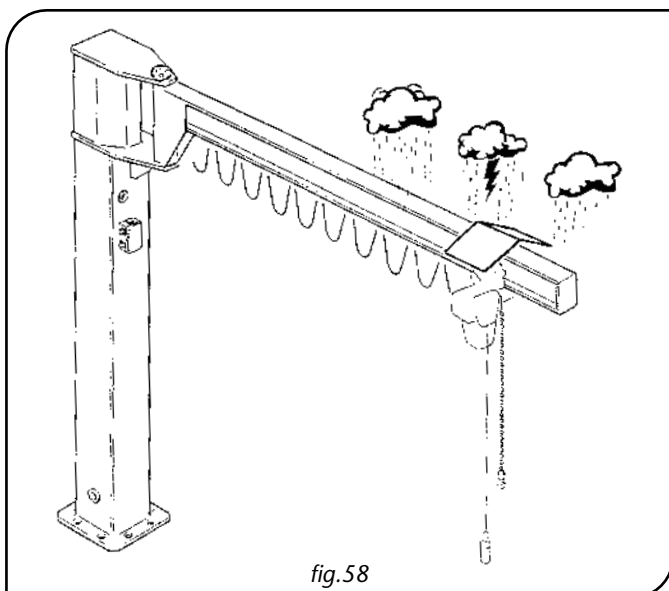

fig.58
- **outdoor use:** the jib crane may be exposed to atmospheric conditions during and after use. The electric parts of the hoist and trolley have IP55 protection, however, protecting the hoist and trolley with a shelter of some kind is recommended (fig. 58).